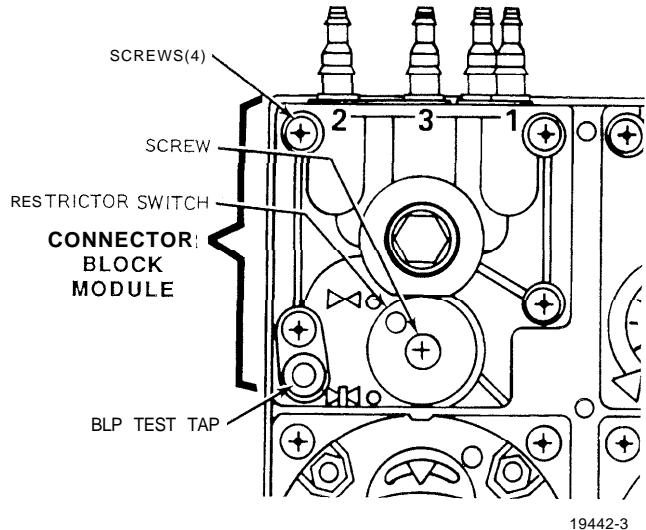

Fig. 19. Connector Block Module Parts Identity.
1. Loosen the four screws securing the connector block module to the base (Fig. 19).